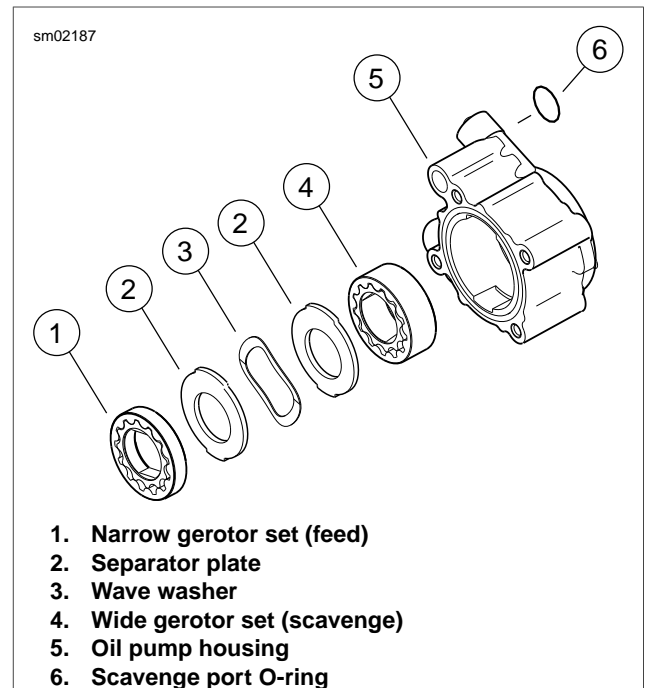

Figure 3-129. Assembling Oil Pump
8. See Figure 3-129. Assemble the oil pump. Verify that feed gerotors stand proud of the oil pump surface 0.015-0.025 in. (0.381-0.635 mm). If measurement is less than 0.015 in. (0.381 mm), remove feed gerotor set and reassemble using new wave washer. Repeat measurement and replace oil pump body if still not within specification.